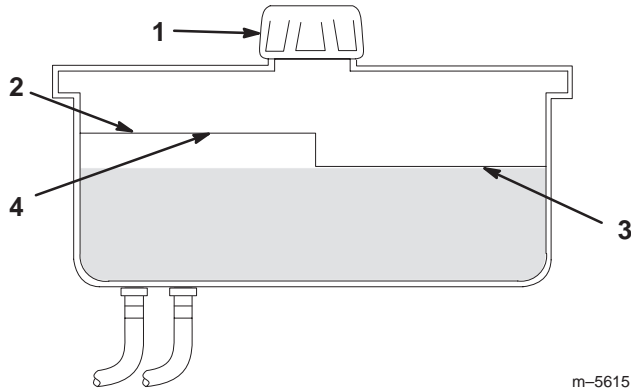

Figure 52
2. Clean area around filler neck of hydraulic tank (Fig. 52).
3. Remove cap from filler neck. Look inside to check if there is fluid in the reservoir. (Fig. 52).
Note: The fluid level should be to the top of the **hot** level of the baffle, when the fluid is warm (Fig. 52).